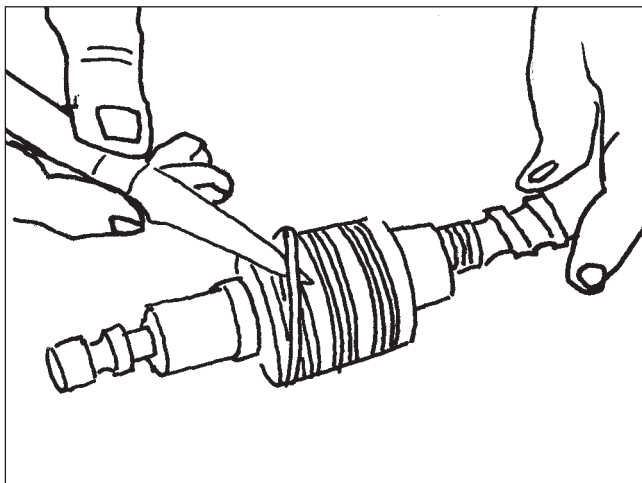

Figure 113
1. Remove the rotary valve seals and energizing O-rings (Figure 113).